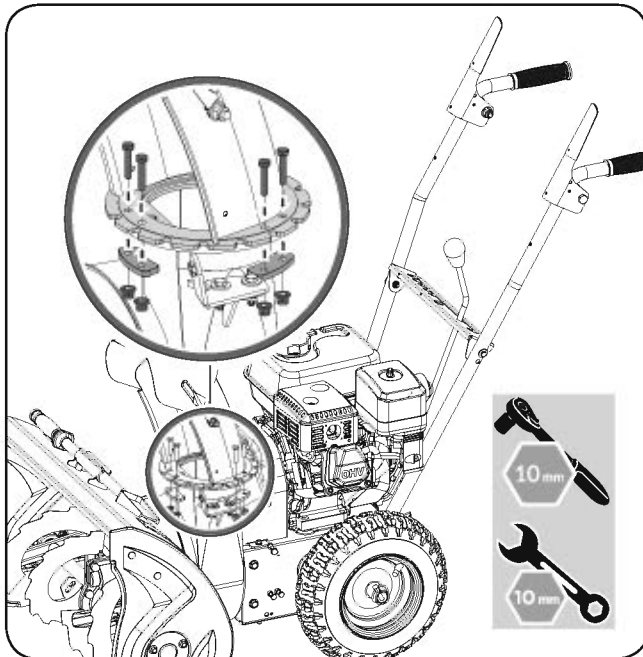

Figure 8c
- Secure the three flange keepers to the bottom of the chute crank flange by sliding the bolts through the chute base holes, sliding the keepers up from the bottom, then securing them with the included nuts. (See **Figure 8c**)